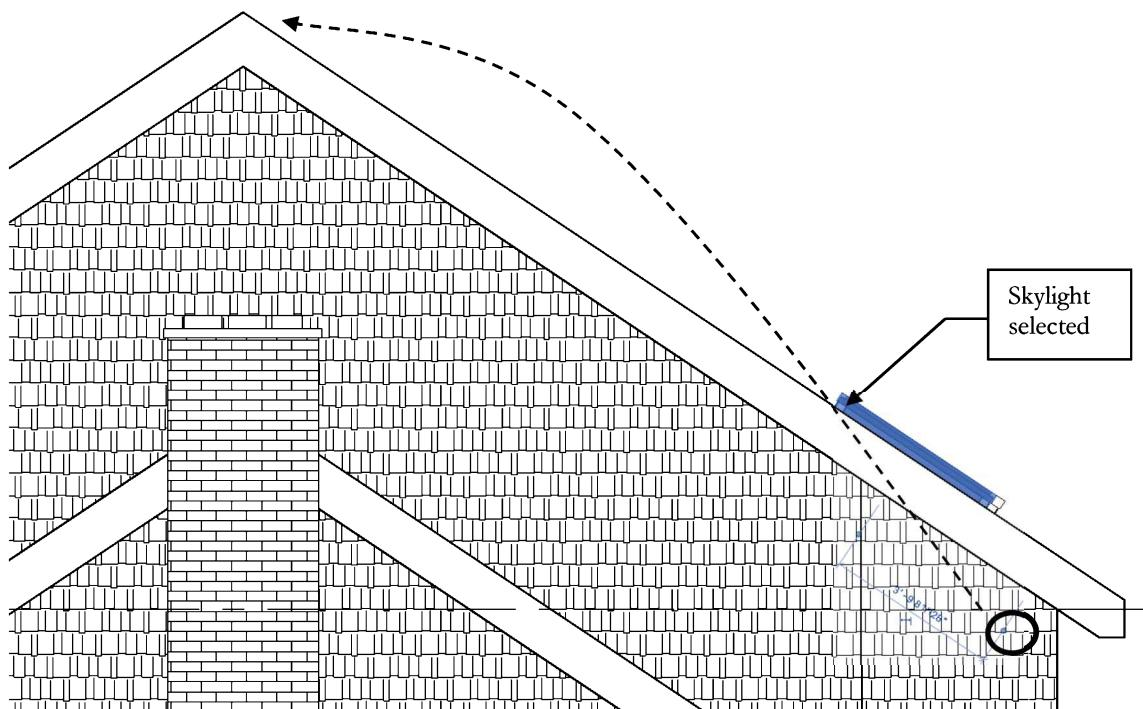
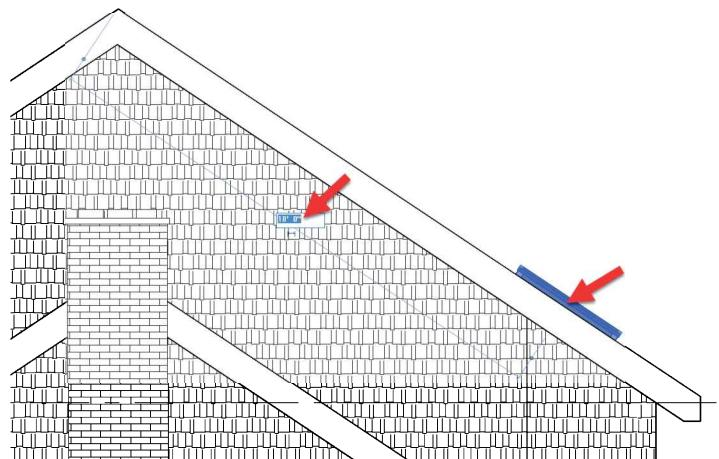

FIGURE 8-4.2 East elevation; temporary dimension shown after selecting the skylight.
FIGURE 8-4.3 East elevation; temp dimension witness line adjusted.
9. Click and drag the temporary dimension **grip** shown in Figure 8-4.2 to (wait until it snaps) the ridge of the main roof (Figure 8-4.3).